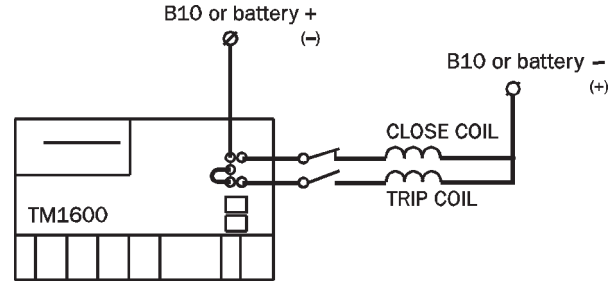

Figure 4.2. Positive or negative common supply.
- Connect the breaker as shown in Figure 4.2 or 4.3.
- Connect the breaker as shown in Figure 4.2 or 4.3 with one important difference: Interchange the wires that run from the TM1600 to the coils.